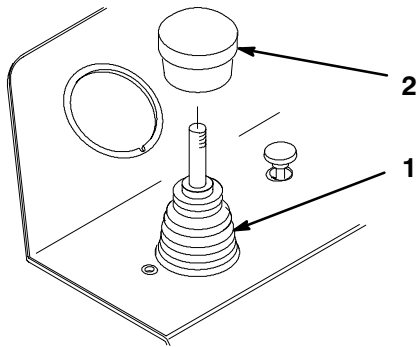

Figure 5
1. Thread the control knob onto the lever (Fig. 5).